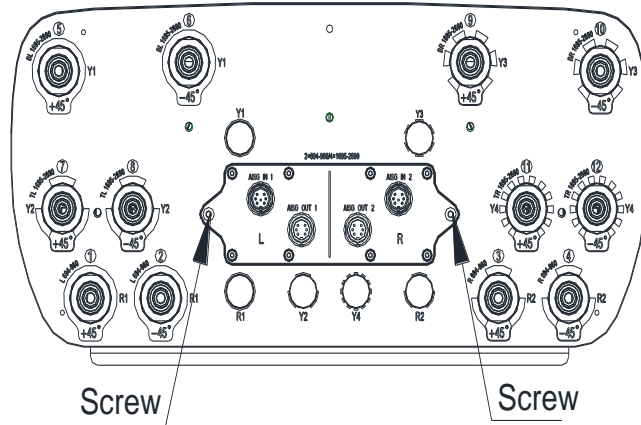

Figure 4-2 IRCU Installation
b) As shown in Figure 4-2, tighten screws on IRCU using a slotted type screwdriver.